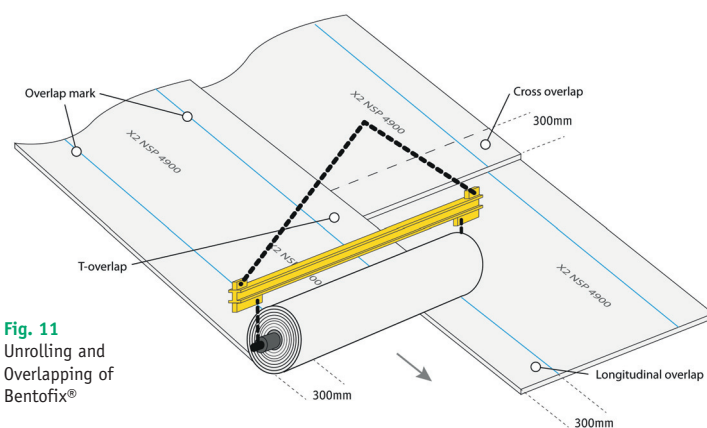

Fig. 11
17.5 T-shaped seams (fig. 11) should be reduced to a minimum.
17.8 Unless otherwise specified, the minimum dimension of the longitudinal overlap should be 300mm. The edge overlap lines of Bentofix® allow the line-up during the unrolling process (fig. 11). End-of-roll overlapped seams should be constructed similarly but the minimum overlap should measure 500mm. Care should be taken to maintain these overlap dimensions at the time of covering, in all climatic conditions.